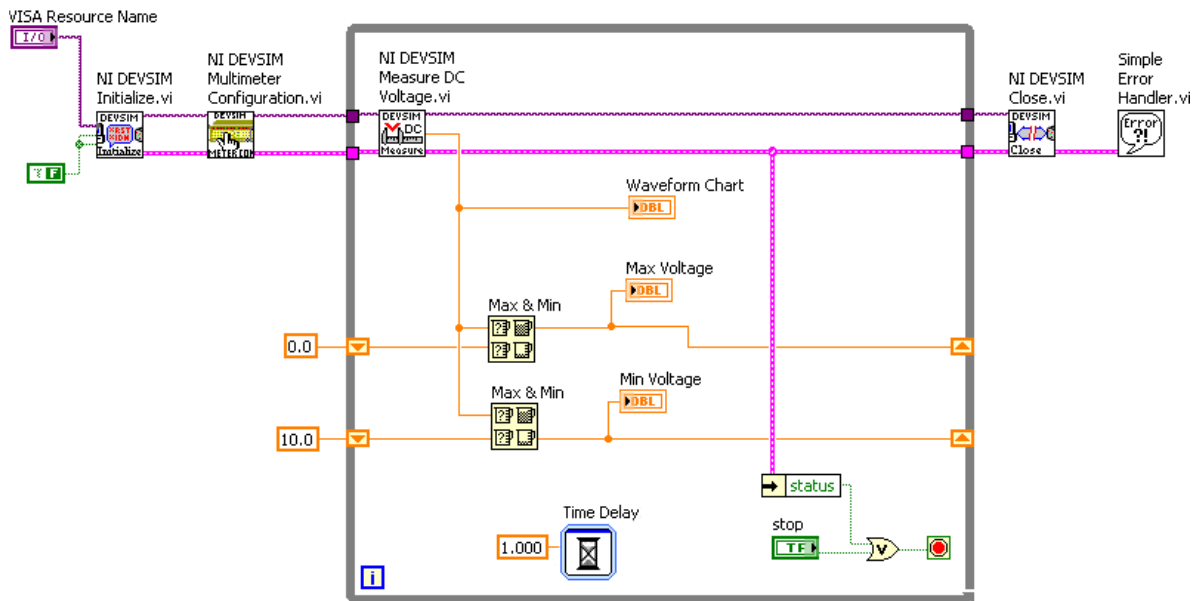

Figure 11.11
1. Build the block diagram shown in Figure 11.11.
- (k) Wire the block diagram as shown in Figure 11.11.